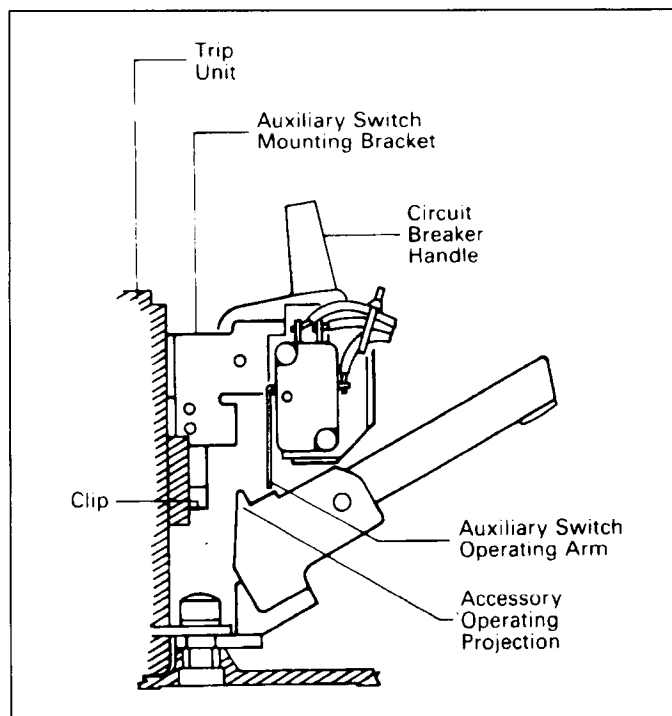

Fig. 2-8. Auxiliary Switch Operating Arm Location
- c. Slide accessory combination mounting bracket into slots until retaining clip snaps into trip unit. Be sure that auxiliary switch operating arm is between accessory operating projection on the molded crossbar and arc extinguisher (Fig. 2-8). For terminal block assemblies, slide terminal block into mounting slot on side of base as accessory combination is being positioned.